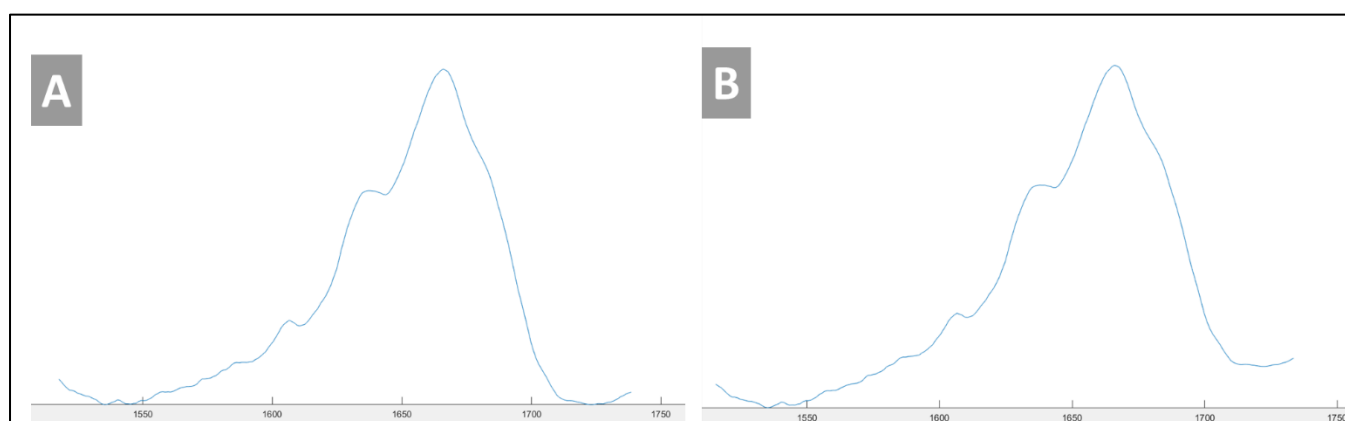

Figure 35: Isolated band with (A) and without (B) turning on the 'Apply Linear Background Removal' option.
- Figure 35 demonstrates the difference between with and without the 'Apply Linear Background Removal' option turned on.